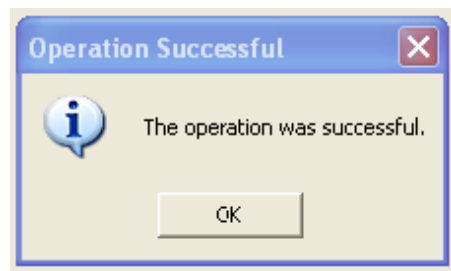

Figure 18: Operation successful message
- An “Operation Successful” message appears if the operation is successful (Figure 18).